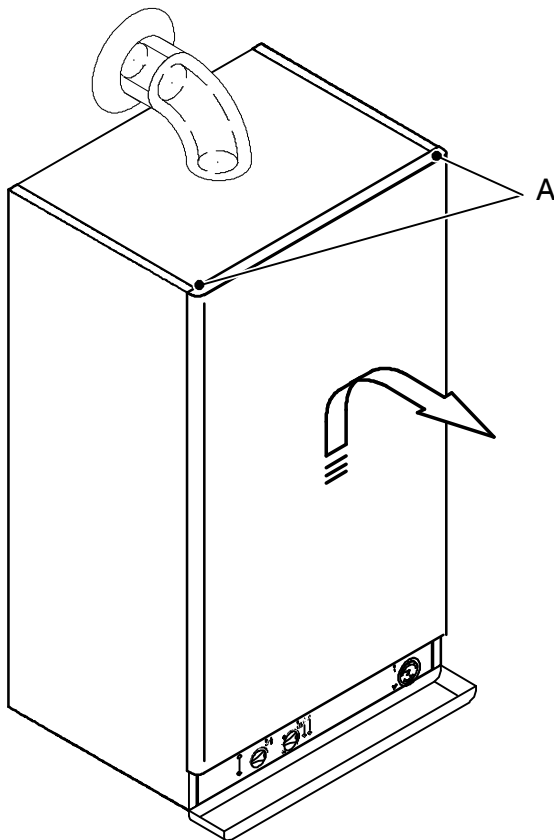

fig. 9.1
- 1 Loosen the two screws A (fig. 9.1).